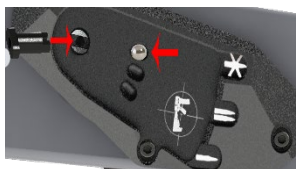

fig. 11
- f) Place the forked end of the Selector Lever Spacer (F) into the Selector Lever Hole (G) so that it engages the slot in the Echo Assembly (A). (See fig. 11)
- g) Place the Selector Ball Detent (J) on the top detent pocket on the Selector Plate (C) (This will line the Selector Lever (H) up with "Safe" mode). (See fig. 11)